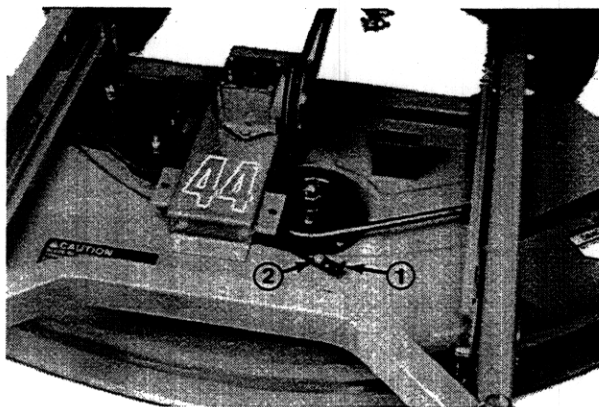

Figure 11
2. Remove the nut securing the spring anchor to the capscREW in the housing (Fig. 11). Lift the anchor from the capscREW and pull to increase belt tension. Correct belt tension is achieved when 30-40 lbs. of force is applied to the spring.